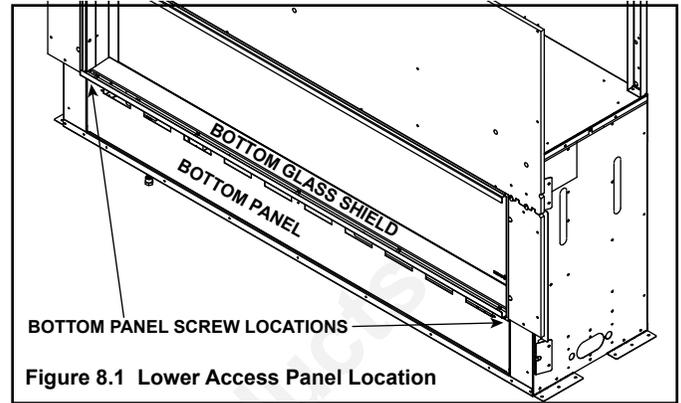

Figure 8.1 Lower Access Panel Location
1. Remove bottom panel by removing two screws. Screw locations are shown in Figure 8.1. After removing two screws, gently lift the panel off the appliance avoiding contact with the non-combustible board if possible.